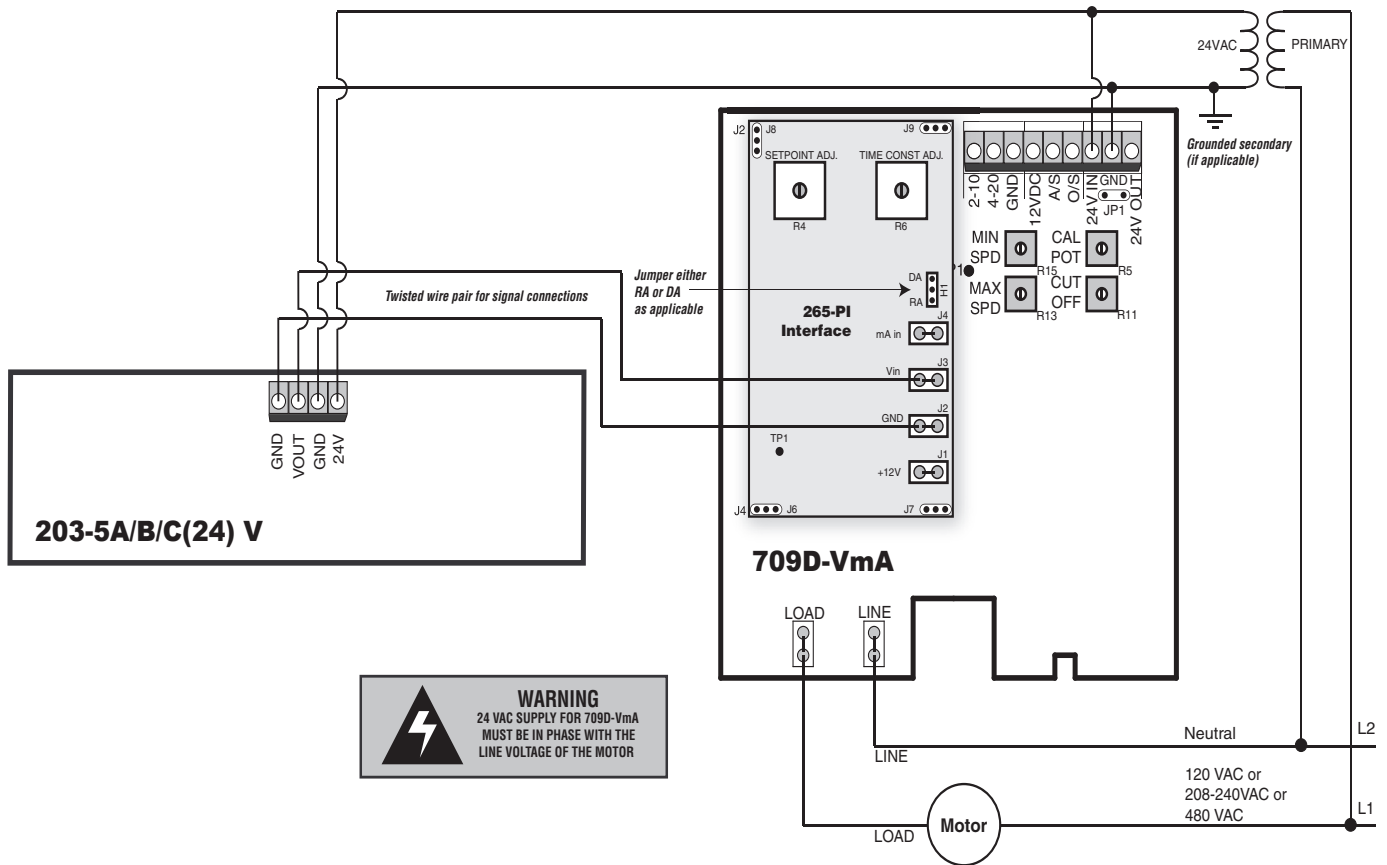

Figure 3 - Electrical connections to Model 709D Vma(PI) Controller
1. Connect the 203-5(24)V transducer, as shown in Figures 3&4, when using a Hoffman Controls 709 Series Control with the 265 PI Interface option.
3. Apply an uninterrupted 24V AC source to the 203-5 (24)V Series transducer.